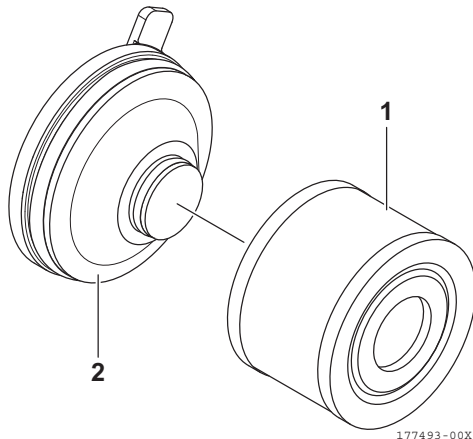

Figure 13
4. Remove the filter cartridge (1, **Figure 13**) from the cover assembly (2, **Figure 13**).